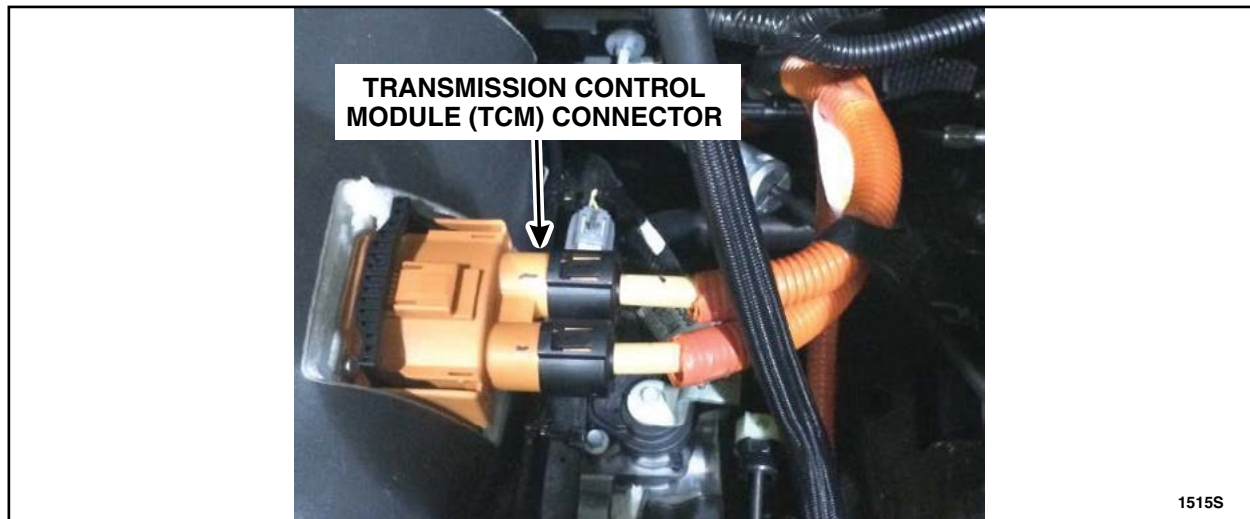

FIGURE 12
1. Disconnect the High Voltage (HV) battery service disconnect. Please follow the Workshop Manual (WSM) procedures in Section 414-03A.
3. Disconnect the Transmission Control Module (TCM) connector. See Figure 12.
5. Connect the TCM connector. See Figure 12.